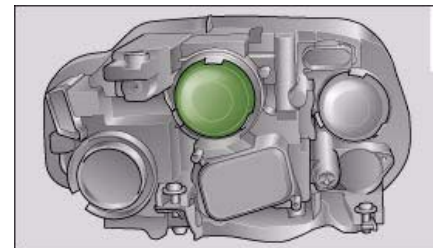

Fig. 294 Headlight unit: Cover
- Take off the cover ⇒ *page 308*, fig. 294 ⇒ ⚠ in “Changing bulbs” on *page 304*.